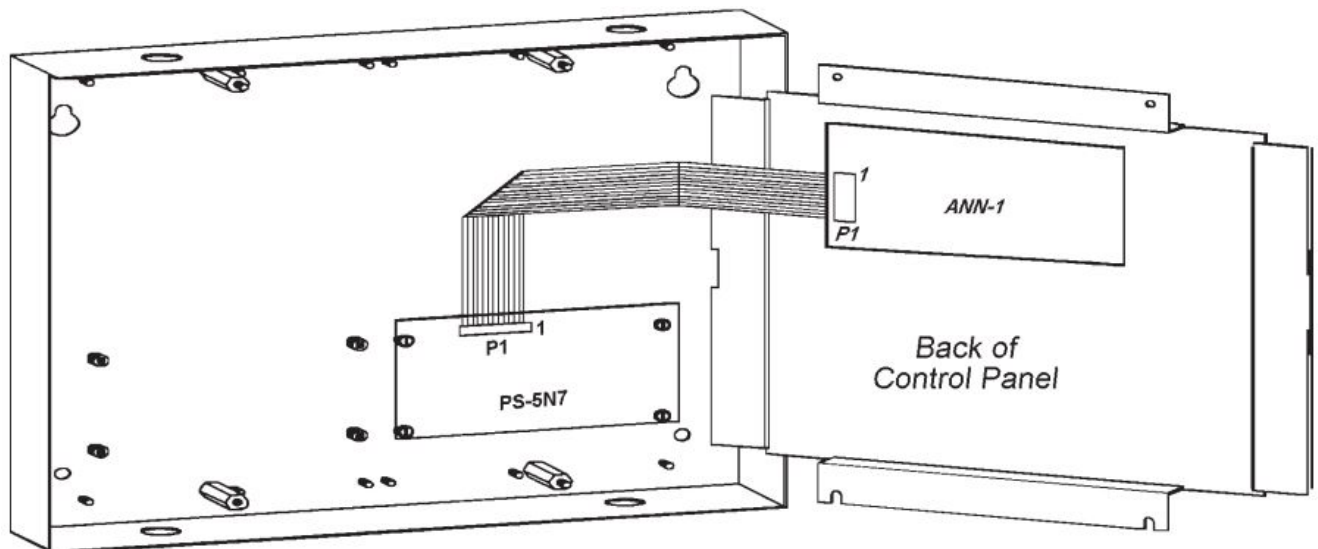

Figure 2
3. RCC-1/-1F—Install in the lower right-hand corner (See Figure 2).